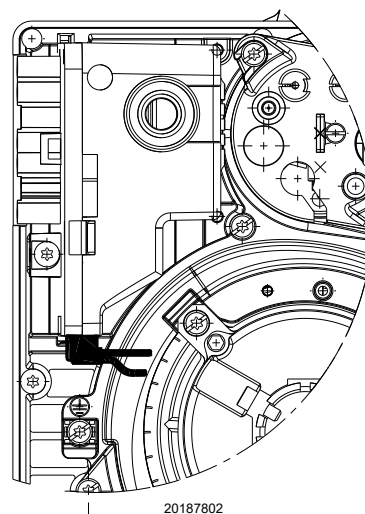

Fig. 20
- Check proper insertion of connection connectors according to the symbols shown on the bottom of the flame control equipment: make sure that the connectors are fully inserted by pushing them all the way in, each in its relevant position. All connectors must have the connection cables facing towards the inside of the burner (see Fig. 20).